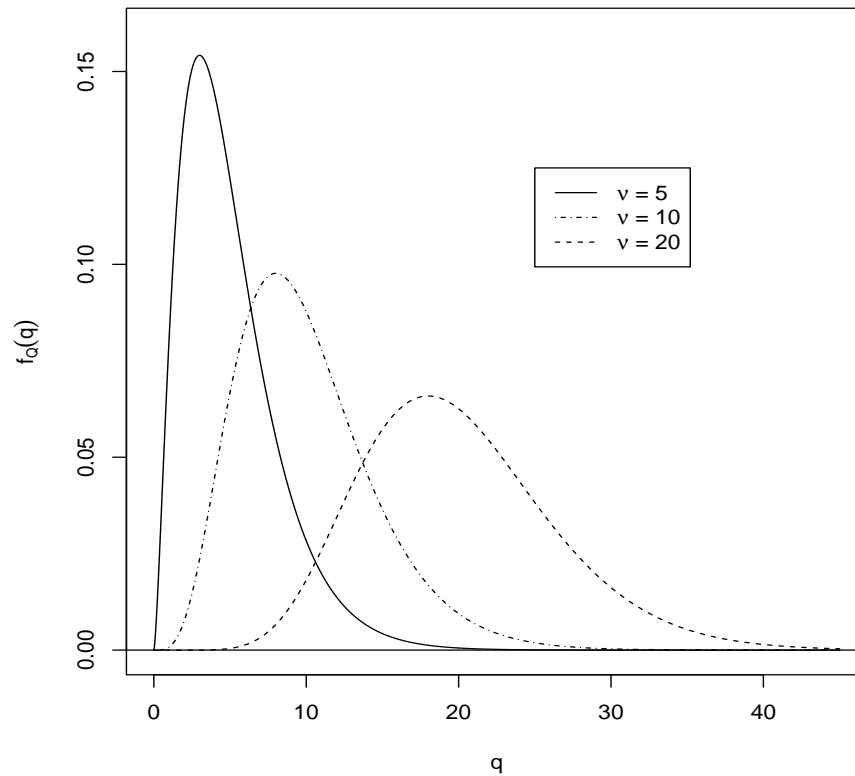

Figure 7.3: χ^2 pdfs with different degrees of freedom.
- Its pdf is continuous, skewed right, and its support is positive values only (no negative values); see Figure 7.3 above.